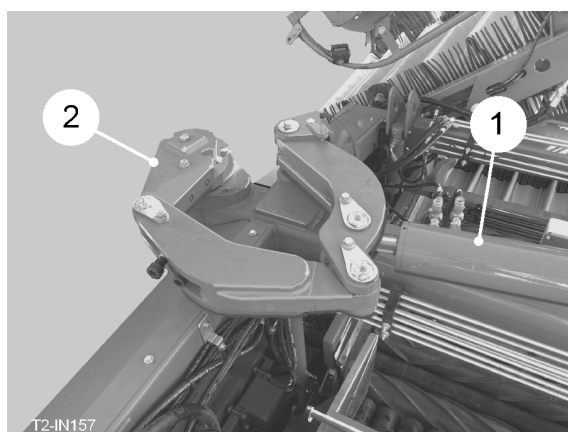

Fig 19
The RH wheel should be tracked fully in for transport and fully out during work to give optimum balance and reduce wheel loading during operation. The RH wheel is rotated into position by the tracking ram (item 1, fig. 19) and tracking arm (item 2, fig. 19).